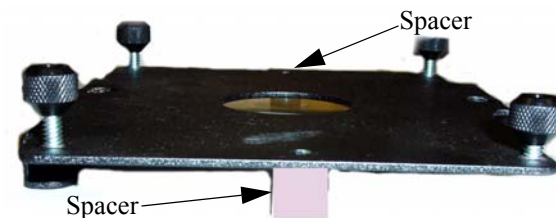

Figure 2. Install Spacers
4. Slide two 1/2" nylon spacers between the remaining two threaded inserts of the projector and the holes in the mounting bracket (see Figure 2).